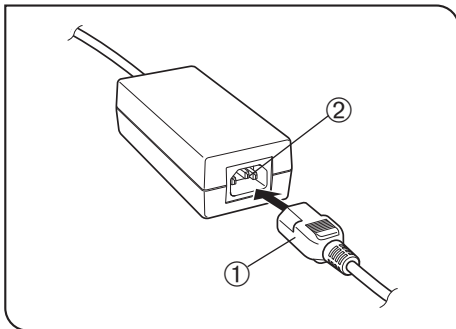

Fig. 41
## 9 Attaching the Power Cord (Figs. 41 to 43)
### Operation Using the AC Adapter (Fig. 41)
1. Insert the connector ① of the power cord firmly into the input connector ② of the AC adapter (Fig. 41).